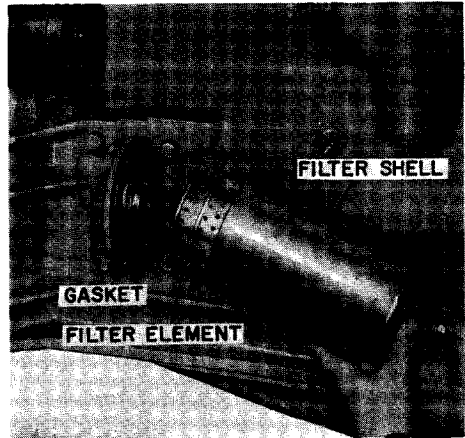

Figure 7
3. Pull the contaminated element out of the shell, Figure 7, and flush the shell and filter base with clean diesel fuel.
1. Install a new Case Filter Element on the bolt. Be sure the element is installed as shown in Figure 7, and BE CAREFUL not to push the rubber grommet seal out of the element with the bolt.
2. Install the new gasket provided with the element, Figure 7.